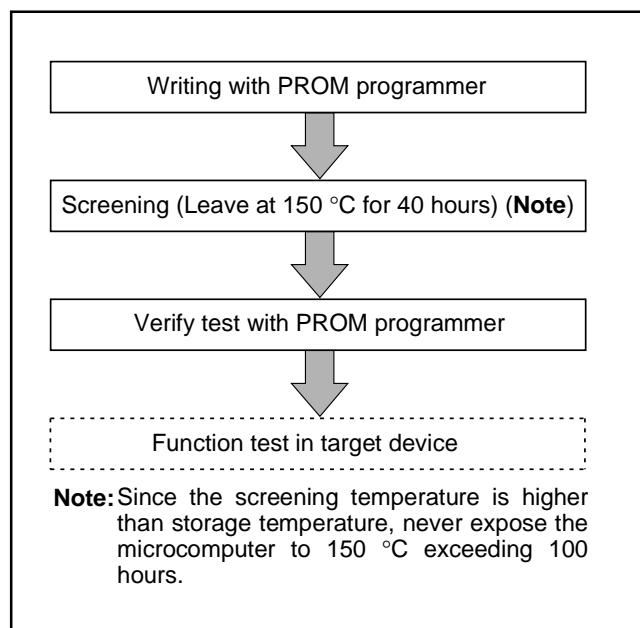

Fig. 71 Flow of writing and test of the product shipped in blank
(2) Notes on handling
- ① A high-voltage is used for writing. Take care that overvoltage is not applied. Take care especially at turning on the power.
- ② For the One Time PROM version shipped in blank, Renesas Technology Corp. does not perform PROM writing test and screening in the assembly process and following processes. In order to improve reliability after writing, performing writing and test according to the flow shown in Figure 71 before using is recommended (Products shipped in blank: PROM contents is not written in factory when shipped).
(3) Electric Characteristic Differences Between Mask ROM and One Time PROM Version MCU